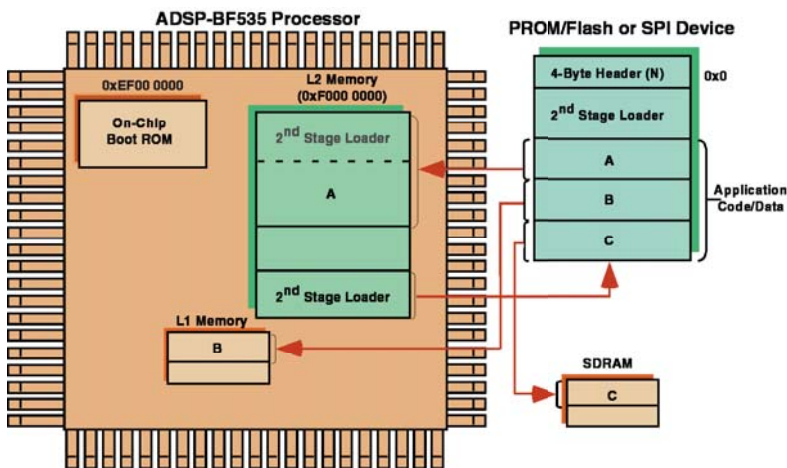

Figure 3-9. ADSP-BF535 Processors: Booting Application Code
3. The second-stage loader downloads the application code and data into the various memories of the Blackfin processor (Figure 3-9).